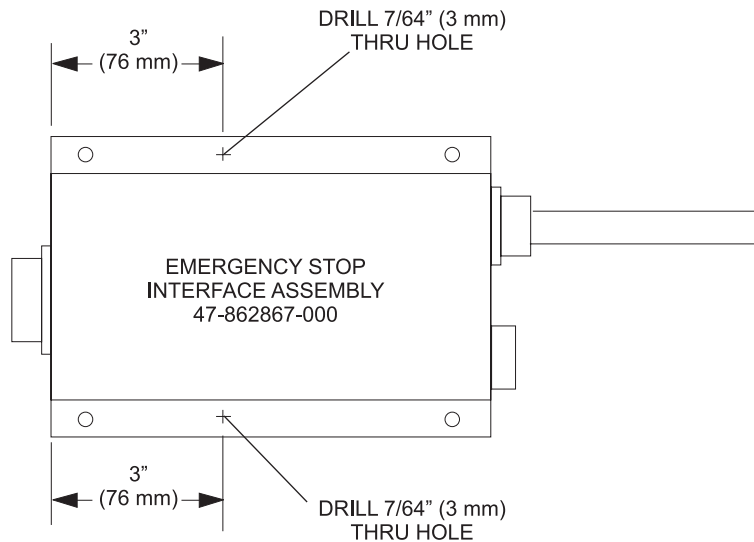

Figure 12
2. Drill two new mounting holes in the Emergency Stop Interface Box bracket. Refer to *Figure 12*.